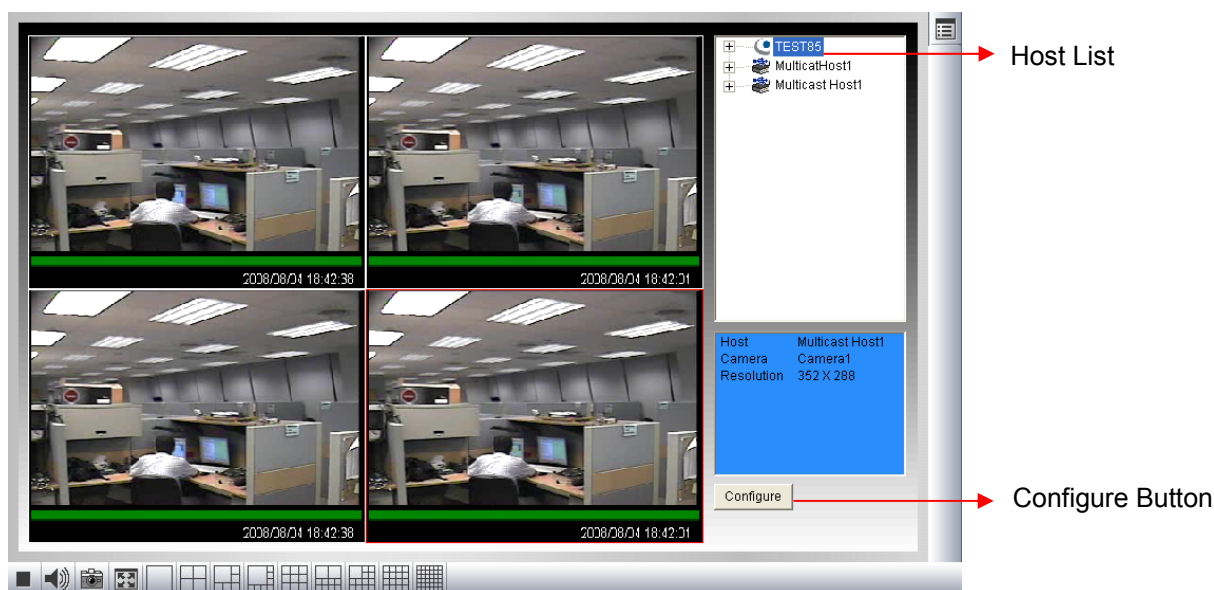

Figure 8-48
2. On the left panel, select **Live View** and select **Multicast**. The Multicast Viewer (Figure 8-48) appears.
1. Click the **Multicast** button (No. 16, Figure 8-34) on the Multi View screen. The Multicast Viewer (Figure 8-48) appears.